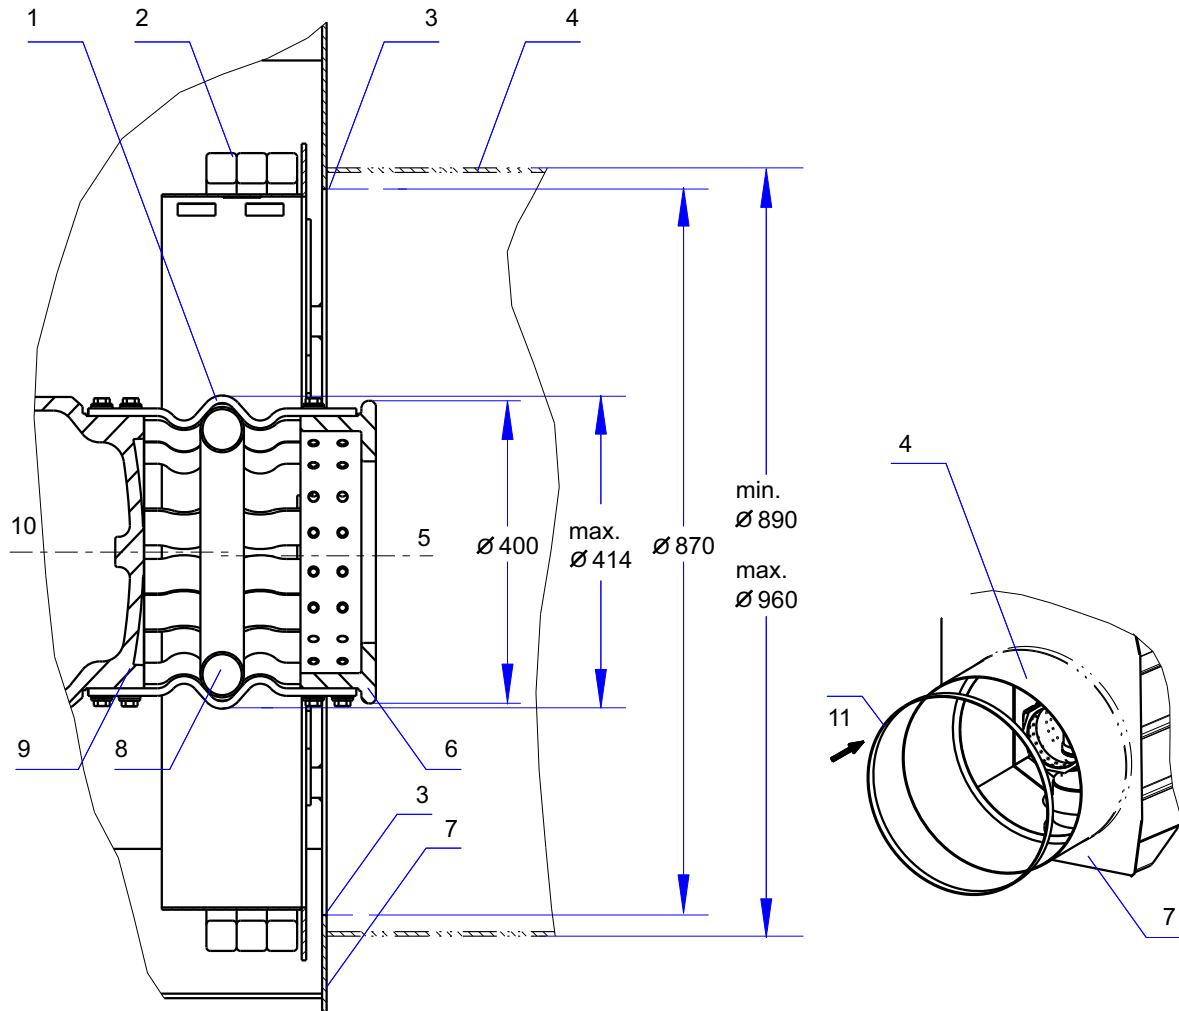
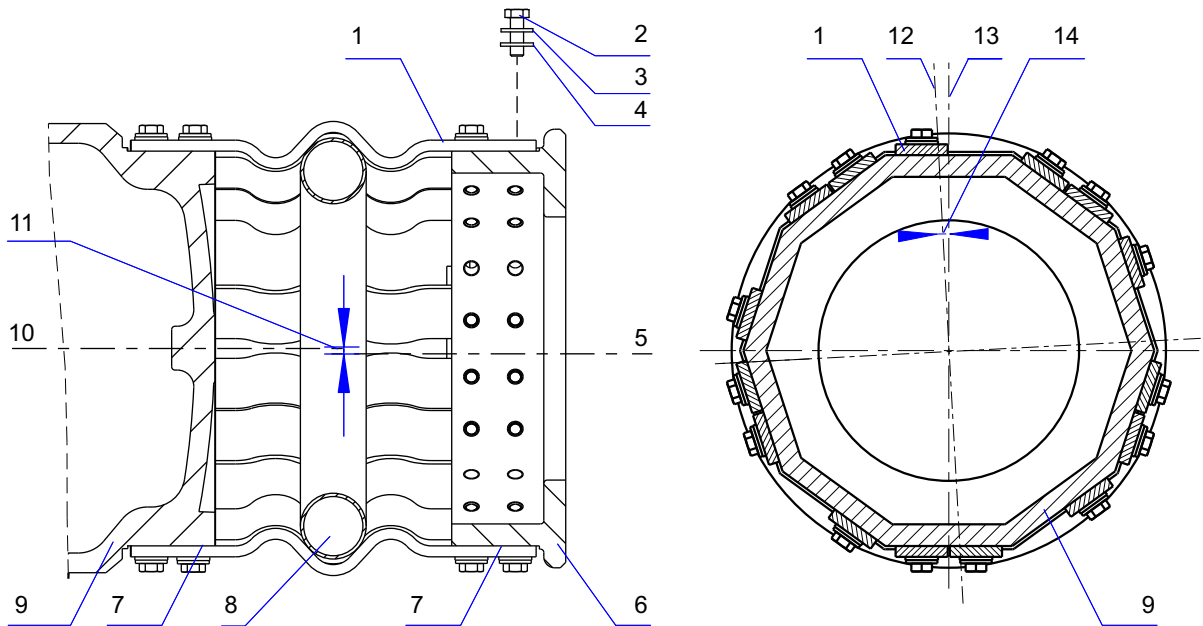
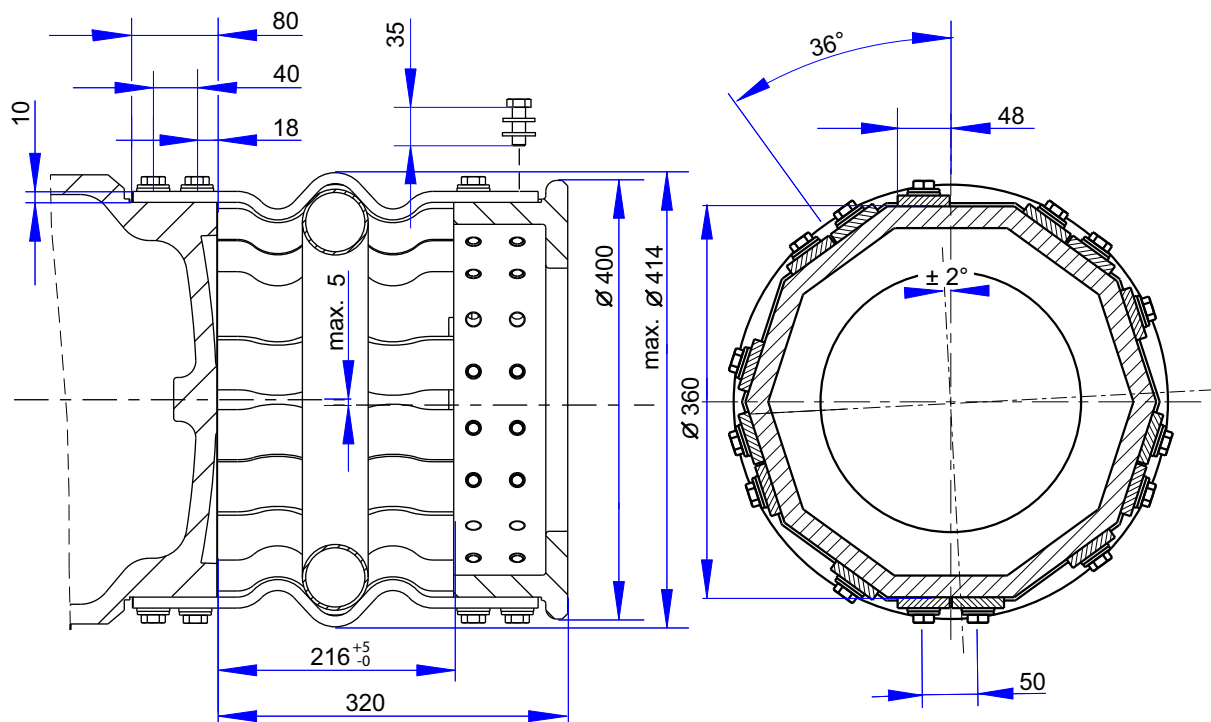

Fig. 6-15 Connecting the enclosure, dimensions in mm
Fig. 6-16 Flexible connection of IPB, elements
Fig. 6-17 Flexible connection of IPB, dimensions in mm
- a) Ensure that the given specifications are met, see Fig. 6-15, page 148 Fig. 6-16, page 149 and Fig. 6-17, page 150.
Tolerances	<p><a href="#">Fig. 6-15, page 148</a>, <a href="#">Fig. 6-16, page 149</a> and <a href="#">Fig. 6-17, page 150</a>.</p> <ol style="list-style-type: none"><li>1. Ensure that the product is correctly aligned, see <a href="#">Section 6.6.1 Aligning the product, page 139</a>.<ol style="list-style-type: none"><li>a) The conductors of the IPBs must be aligned to the conductors of the product.</li><li>b) The enclosures of the IPBs must be aligned to the enclosures of the product.</li></ol></li><li>2. Remove the protective plastic film from the enclosure opening.</li><li>3. Protect the product and installed components so that they cannot be damaged by sparks and spillings.</li><li>4. For each individual conductor of the IPB: Align the conductor terminal to the conductor of the product and weld the conductor terminal to the respective conductor of the IPB.<ul style="list-style-type: none"><li>– Conductor terminals are part of optional manufacturer's supply.</li></ul></li><li>5. During welding work on the product: The enclosures of the product must be closed to prevent deformation caused by heat. Ensure that:<ol style="list-style-type: none"><li>a) the covers of the product enclosures are closed</li><li>b) the fixing bolts of covers are tightened.</li></ol></li><li>6. Weld the enclosures of the IPBs to the enclosures of the product. <a href="#">Section 6.7.1.1 Enclosure, page 148</a>:<ol style="list-style-type: none"><li>a) Ensure that the welding seams are made air tight and that they carry the reverse currents.</li><li>b) It is recommended to use connecting rings to comply with the given specifications.</li></ol></li><li>7. Open the covers of the product enclosures.</li><li>8. Mount the flexible connections:<ul style="list-style-type: none"><li>– <a href="#">Section 6.7.1.2 Flexible connections, page 149</a></li><li>– <a href="#">Section 6.7.1.3 Mounting the flexible connections, page 150</a></li></ul></li><li>9. Remove the protection against sparks and spillings.</li><li>10. Close the covers of the product enclosures.<ul style="list-style-type: none"><li>– Torque of the fixing bolts for covers: 15 Nm</li></ul></li></ol>
- Fig. 6-16, page 149
- Fig. 6-17, page 150